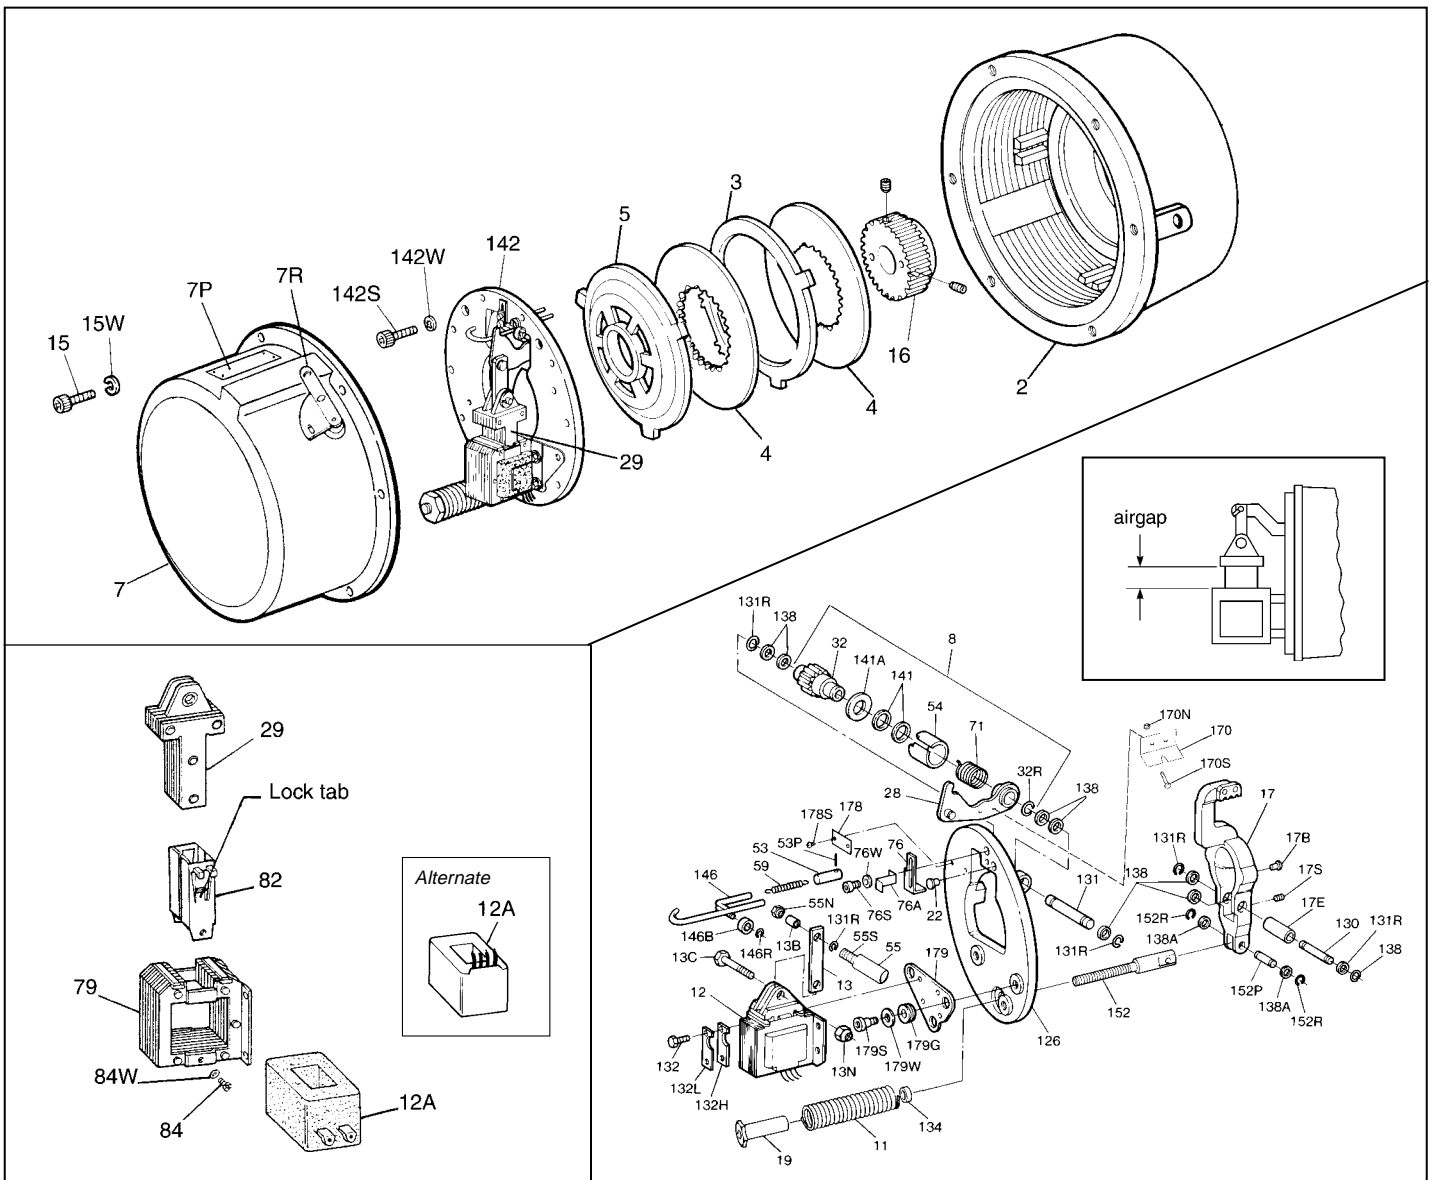

Figure 1
I. Installation Procedure (See Figure 1)
- Unscrew manual release knob (148), housing screws (15) and washers (15W) and remove housing.
- Remove solenoid link screw (13C) and lift plunger (29) from frame (79).
- For metallic plunger guides (82) remove plunger guide screws (84) and lock washers (84W). Remove both plunger guides (82) by prying up on the flanges. Discard plunger guides.
- To remove non-metallic plunger guides (82) remove screws (84) and lock washers (84W). Insert shim stock or other thin gauge material at top center of coil between coil and solenoid frame. Push to release lock tab while lifting up on plunger guide. Repeat for other plunger guide.
- Slide coil (12A) out of solenoid frame (79) in the direction of the coil leads or terminals. If necessary, tap coil lightly with a soft hammer. If solenoid coil had burned out, be sure to remove all foreign material from the solenoid plunger (29) and solenoid frame.
- Install new coil (12A) into solenoid frame with same relative position as old coil. Install coil, alternate (12A), with lead wires upward on outboard side of solenoid. If solenoid actuated switch or DC coil is used, install coil with lead wires upward toward inboard side of solenoid. Assemble new metallic plunger guides (82), plunger guide screws (84) and lock washers (84W) if used. See Figure 1.
- Assemble new non-metallic plunger guides (82) by inserting into position and pushing down until lock tab snaps under top bar of solenoid frame. On coil (12A) with terminals, check that lock tab face is flush with inside surface of guide. If not, file chamfer [about 1/16" (1.5 mm) by 45°] on coil at lock tab area. Install plunger guide screws (84) and lock washers (84W) if used.
The solenoid is factory set with a 1-3/8" (35 mm) to 1-7/16" (37 mm) air gap, and requires no resetting, even when changing friction discs. The air gap is determined by the position of the wrap spring stop (76). The air gap is measured between mating surfaces of plunger and solenoid frame. See Figure 1.